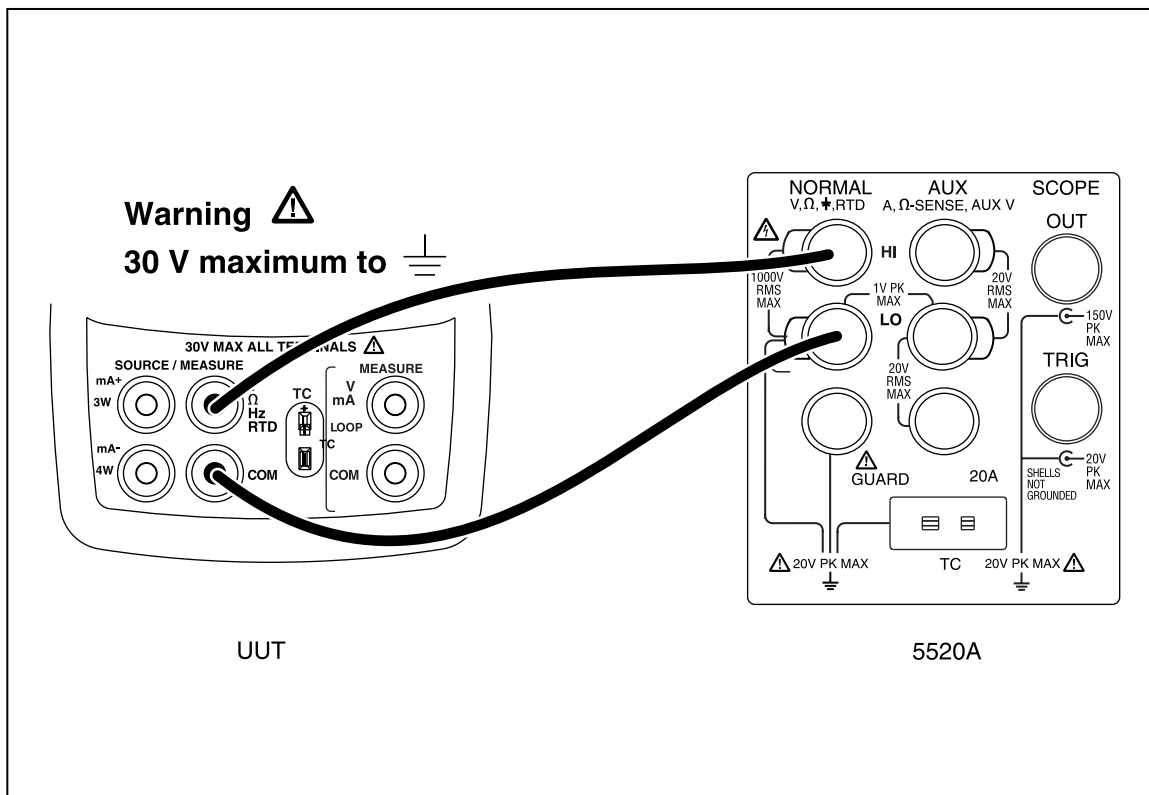

Figure 6. Lower Display Frequency Test Connections
3. Make the connections shown in Figure 6.